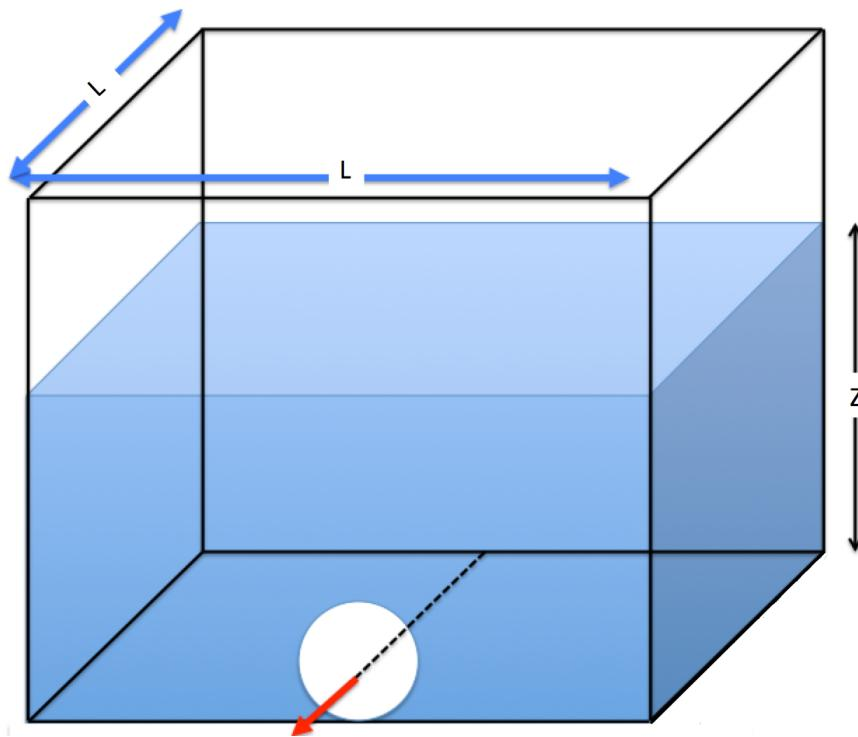

Figure 2: Square detention pond
6. Figure 2 is a square (plan view) detention pond. The initial depth in the 1 hectare (plan view) ($L = 100.0$ meters) is $Z = 3$ meters. What is the average outflow rate in cubic-meters-per-second, if the pond drains through the hole in the side in 24 hours?